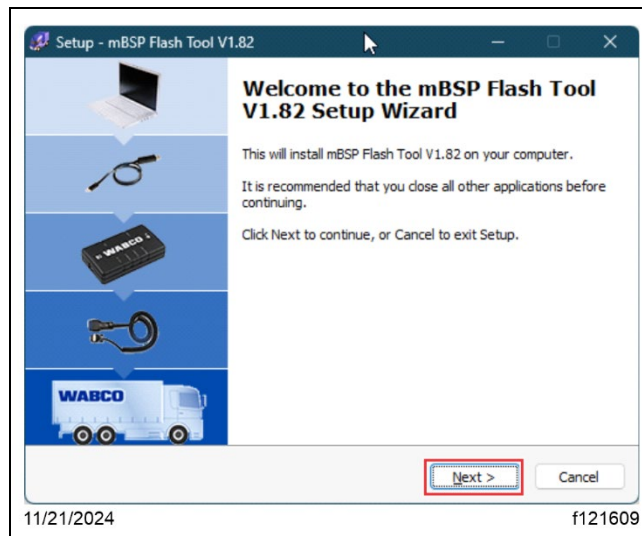

Fig. 33, mBSP Flash Tool Setup Wizard
7.5. The 'Setup - mBSP Flash Tool V1.82' window opens. Select 'Next' to continue the setup. See Fig. 33.